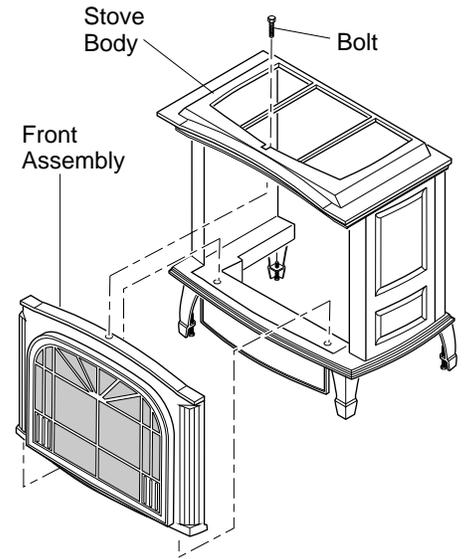

Figure 13 - Removing Front Assembly
13. Remove 2 bolts from bottom of stove and discard. Remove bolt from the top of the stove to remove the front panel assembly (see Figure 13). If not removing screen, proceed to step 17.